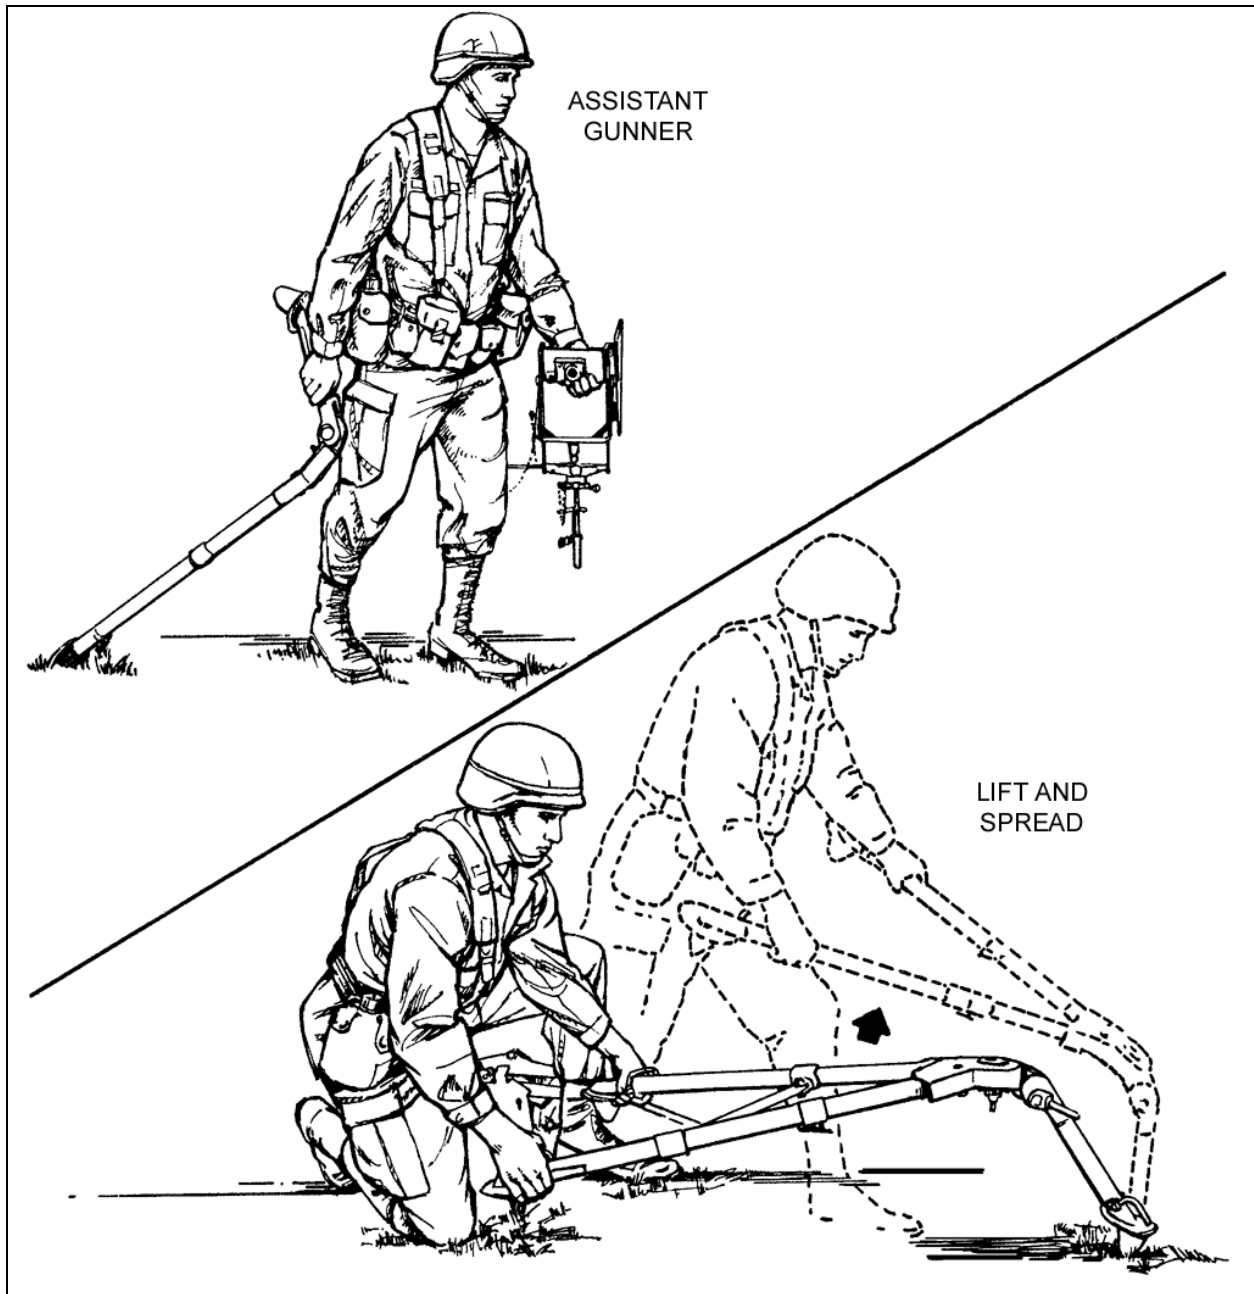

Figure H-2. Positioning the tripod.
- (1) Drags the tripod to the firing position by its front leg with his right hand, and carries the gun cradle with the T&E mechanism attached in his left hand.
- (2) When he arrives at the firing position, aligns the front tripod leg for direction and, with one quick motion, snaps the trail legs apart. This action makes the sleeve lock-latch snap in place (Figure H-2).